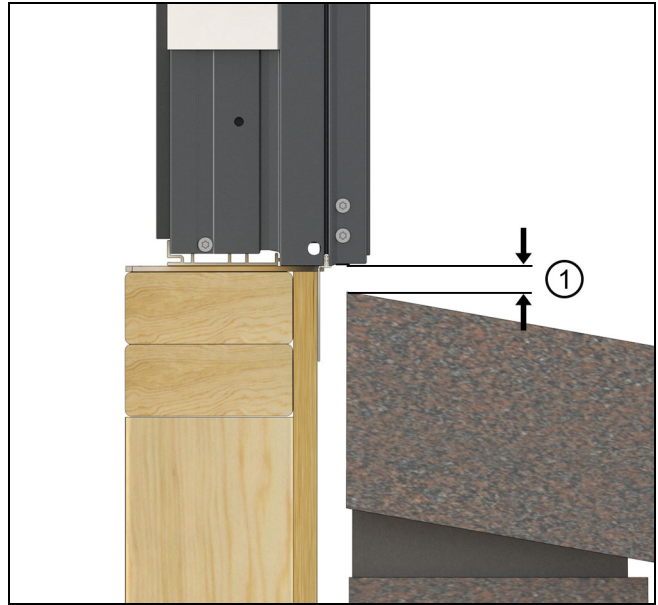

Figure 4 Avoid brick bind, maintain 1/2" gap
On standard wood frame construction with brick veneer, make sure there is at least 1/2" (13) between the bottom of the window sill (or eventual placement of the window) and the top row of brick to avoid "brick bind". See Figure 4.